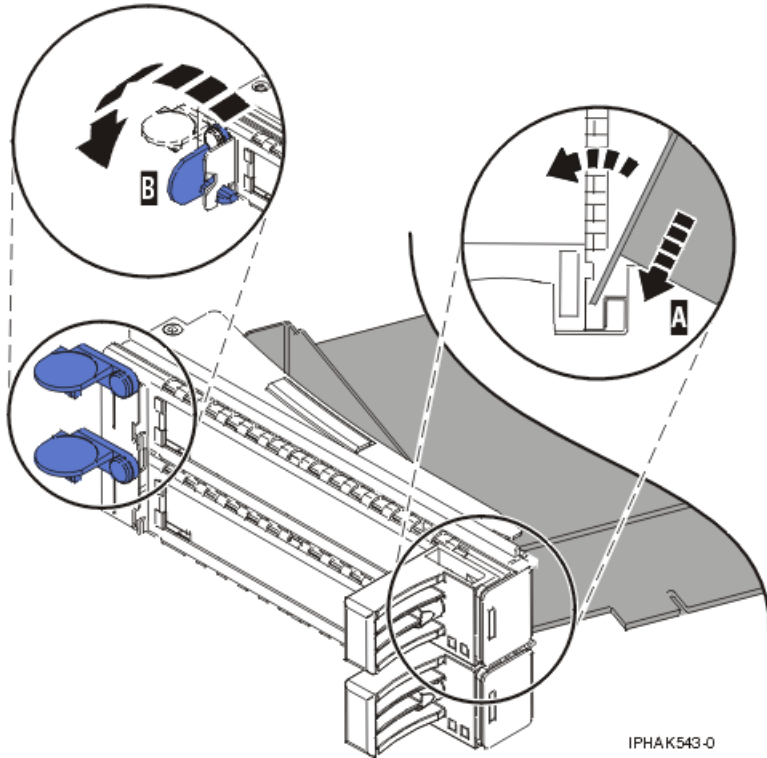
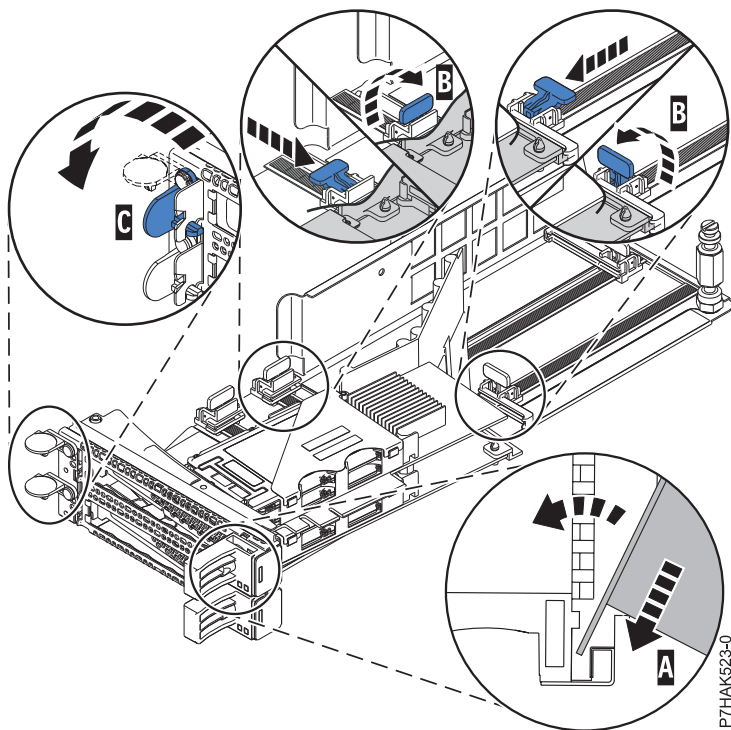

Figure 155. Adapter replaced in the PCI adapter cassette
Figure 156. Replacing a PCIe RAID and SSD SAS adapter into the PCI adapter cassette
- a. With the tailstock clamp in the open position, insert the adapter firmly into the tailstock retaining channel (A). For a typical PCI adapter, see Figure 155 on page 177. For a PCIe RAID and SSD SAS adapter, see Figure 156 on page 177.
- c. Close the tailstock clamp (C).